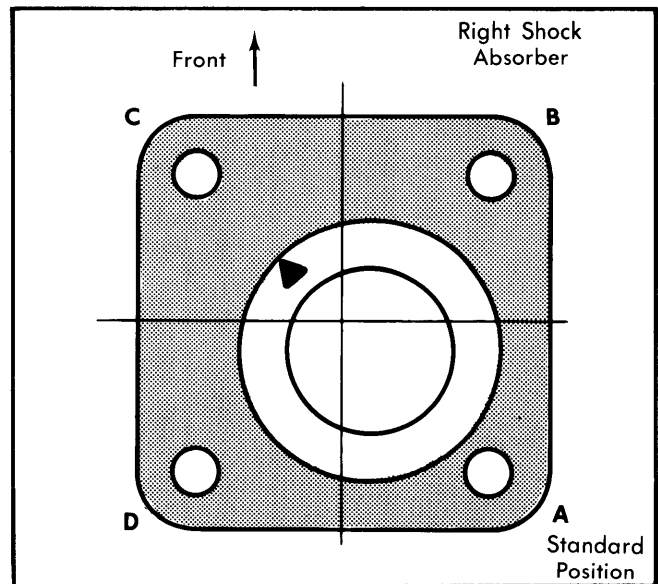

Fig. 1 RX7 & 626 Caster and Camber Adjusting Pad (Position "C" Shown)
2) Press shock absorber downward and change position of support according to table and Fig. 1. Tighten shock absorber support mounting nuts. Install wheel, lower vehicle and recheck caster and camber.